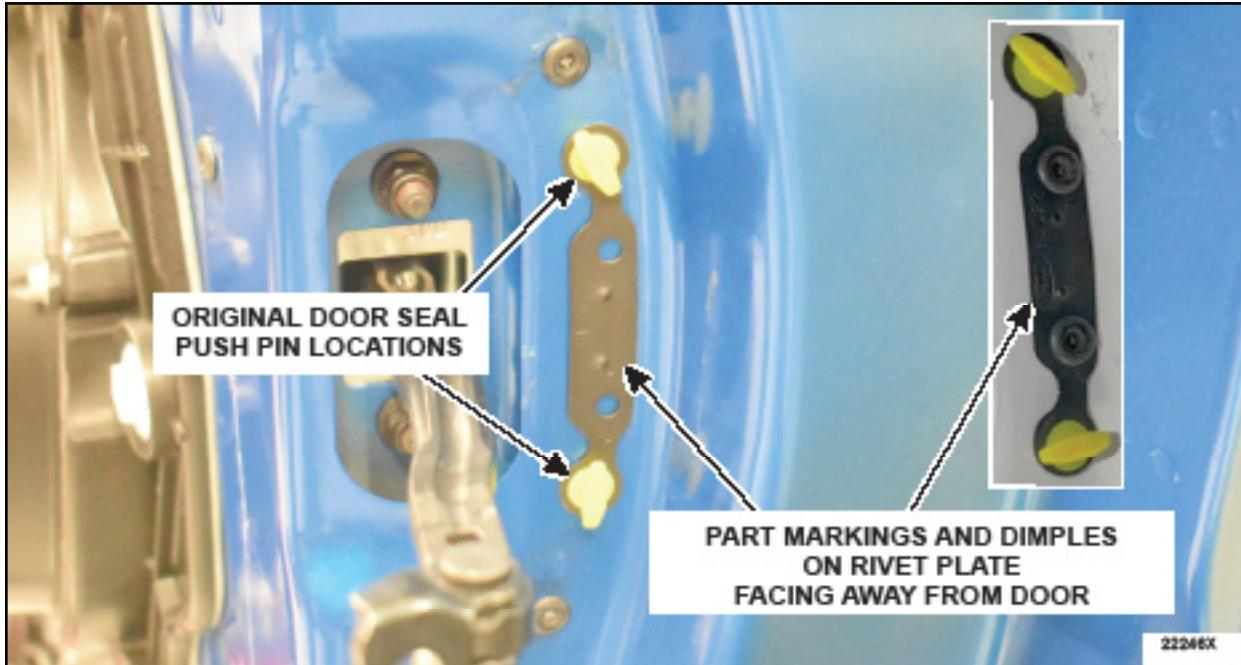

FIGURE 18
15. Using two (2) of the supplied push pins, install the check arm rivet plate into the original door push pin locations shown in Figure 18, making sure the rivet plate marking and dimples are facing away from the door sheet metal.